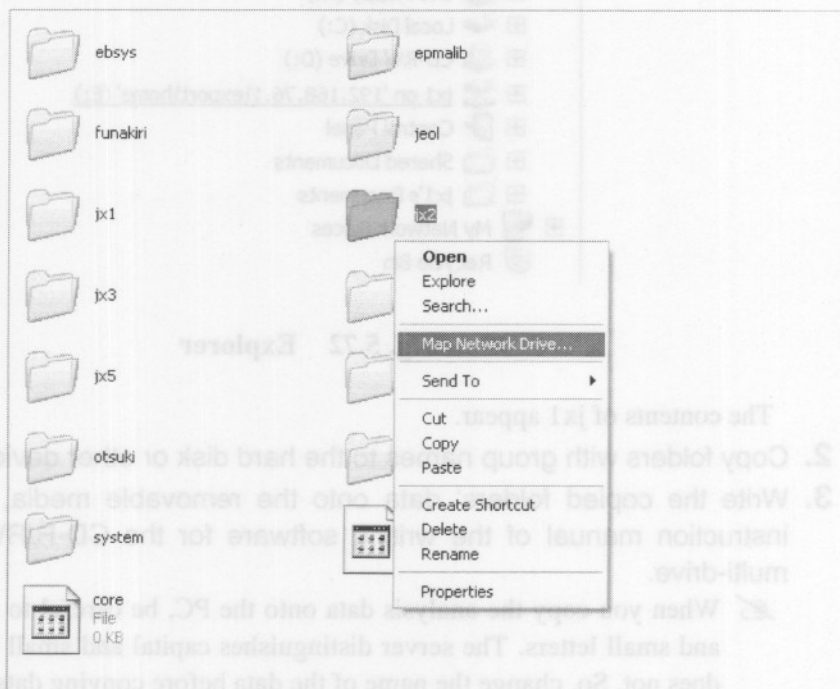

Fig. 5.74 Shortcut
2. Right-click the mouse on the home directory (jx2 for the user jx2) and select **Map Network Drive...** from the menu that appears (refer to Fig.5.74)